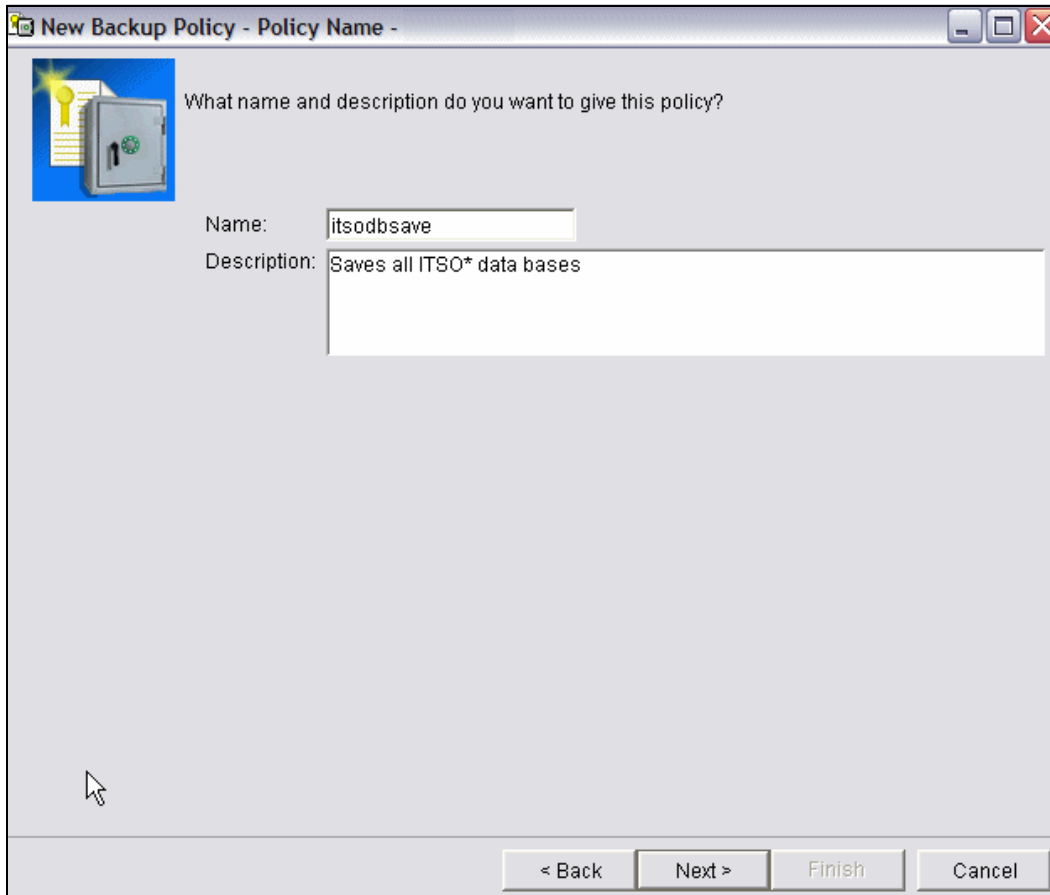

Figure 7-14 Create a policy name
1. Save all the ITSO libraries (their names start with DBITS0). Fill in the backup policy Name and Description, as shown in Figure 7-14 on page 346 (in this scenario, the policy is named ITS0DB).